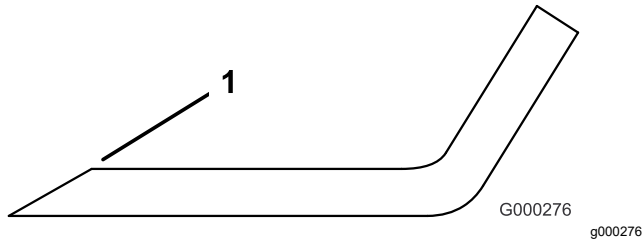

Figure 79
1. Use a file to sharpen the cutting edge at both ends of the blade (Figure 79).
**Note:** If the blade is not balanced, file some metal off the end of the sail area only (Figure 79).